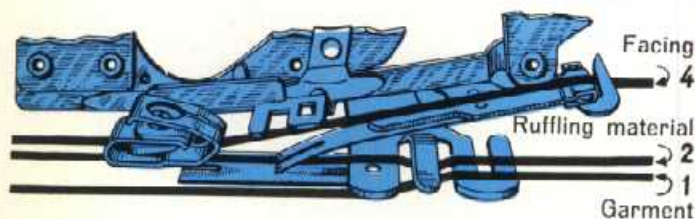

Fig. 71
- 1) Insert material to be ruffled between the two blue blades and under the separator guide «N» (LINE 2, Fig. 71).
- 3) Place facing material over upper blade (LINE 4, Fig. 71).